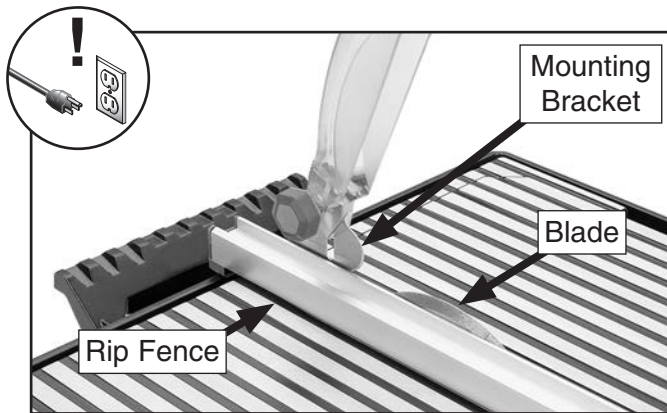

Figure 49. Bracket aligned with rip fence and blade.
10. Use rip fence to align splash hood mounting bracket to blade (see **Figure 49**).